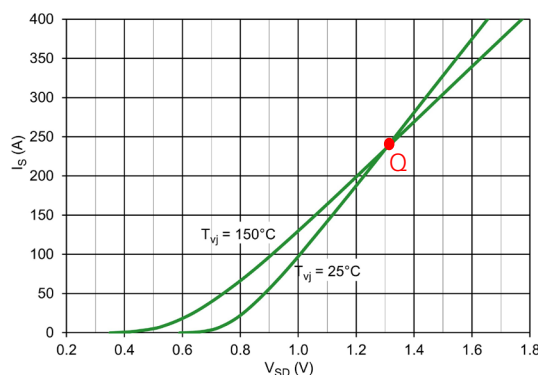

**Figure 27. Forward Biased Safe Operating Area (FBSOA) Curve**
**Figure 27** shows a typical FBSOA characteristic for an N-Channel Power MOSFET. It is bound by the maximum drain-to-source voltage  $V_{DS}$ , maximum conduction current  $I_{DM}$ , maximum drain-source on-state resistance and constant power dissipation lines for various pulse durations.
In **Figure 27**, there is a series of curves that include a DC line along with four single pulse operating lines, 10 ms, 1 ms, and 100  $\mu$ s. The top of each line is limited by the maximum drain current and is bounded by a positive sloped line defined by the on-state resistance  $R_{DS(on)}$  of the device. The right-hand side of each line is terminated at the rated drain-source voltage limit  $V_{DS}$ . Each line has a negative slope and is determined by the maximum power dissipation  $P_{tot}$  of the device: